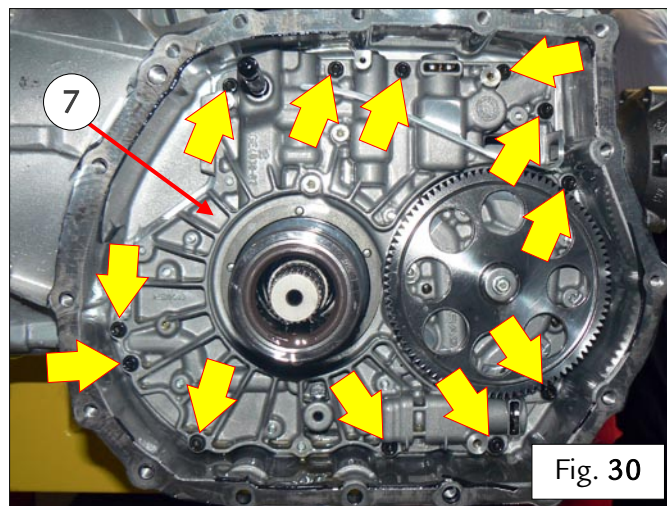

Fig. 30
- Inside the clutch housing, remove the indicated screws fastening the CCP (7) – Fig. 30.
- Lift the CCP (7) off the differential housing – Fig. 30.